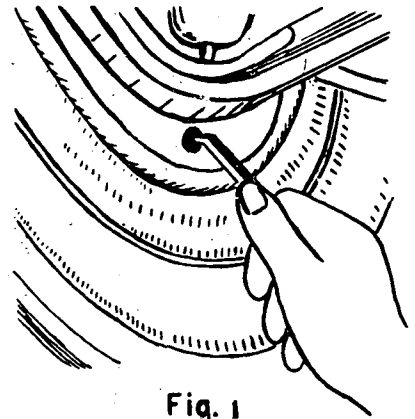

Fig. 1
- c) Close the adjusters of the brake shoes and remove the drums (Fig. 1).